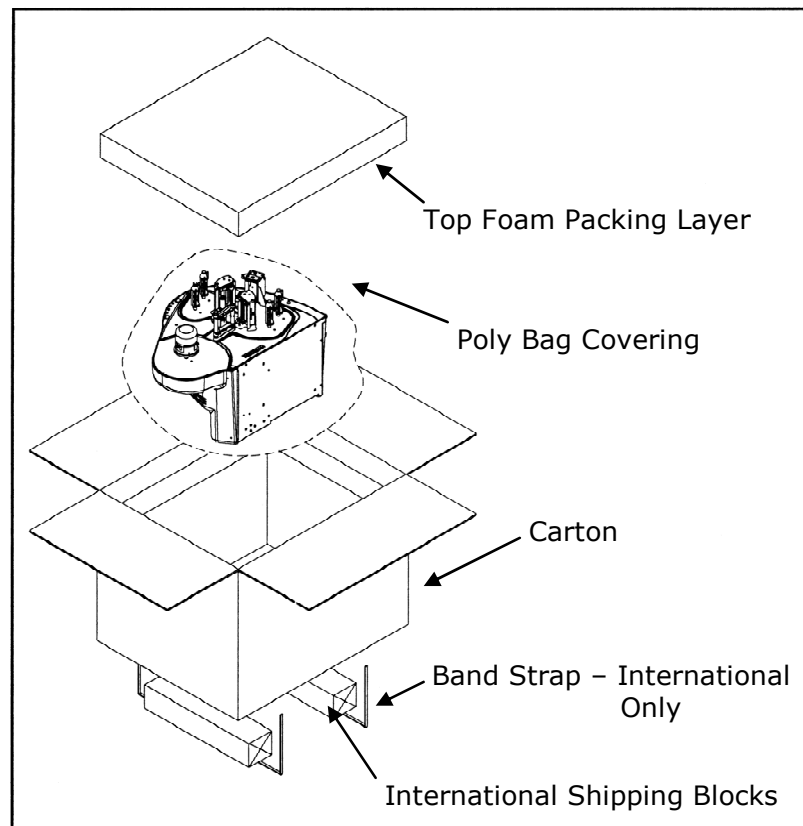

Figure 2. Shipping Carton
2. Remove the foam-packing layer (see Figure 2).